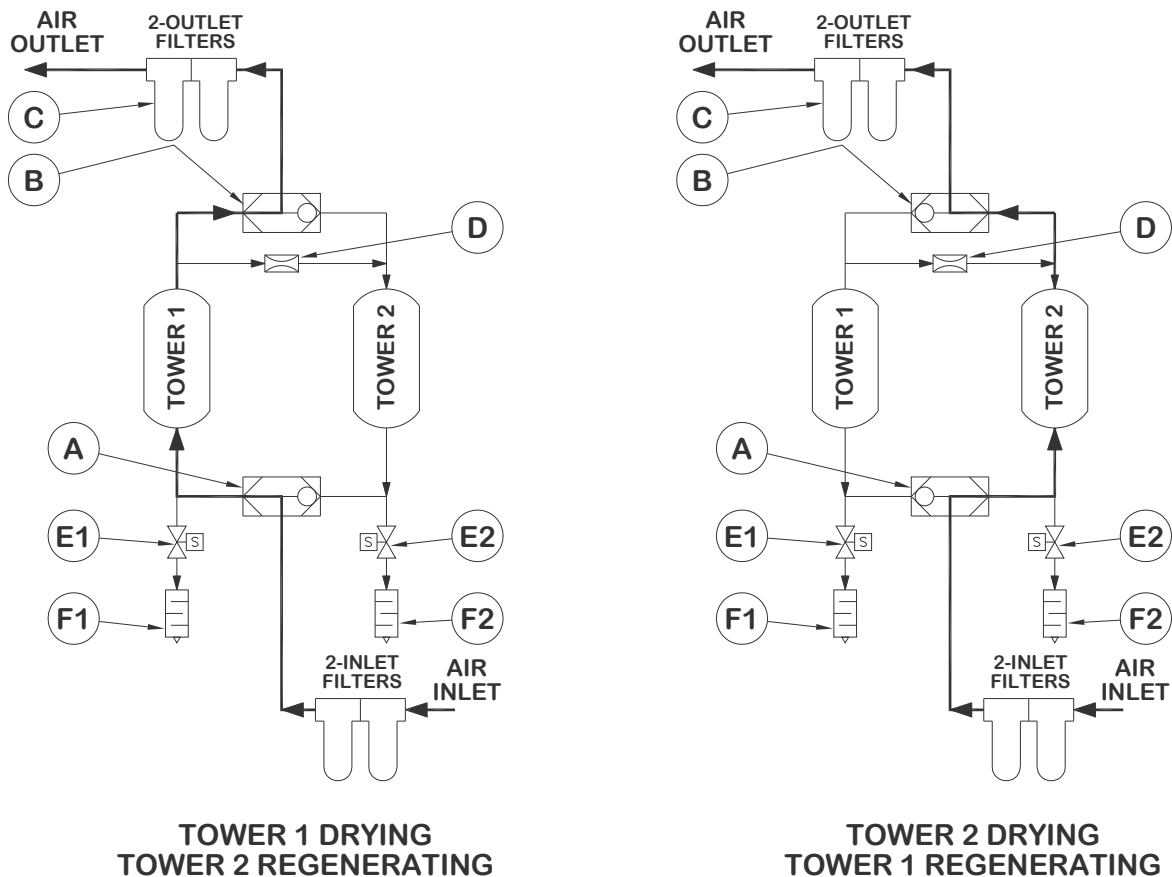

FIG. D.2 CD35 - 70 Flow Schematic
D.2 Basic Dryer Operation CD35 - 70 (See Fig. D.2)